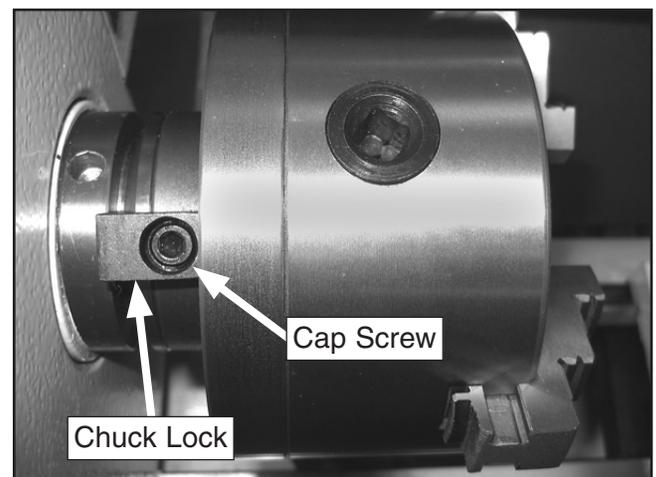

Figure 26. Chuck lock installed on spindle nose and chuck.
6. Install the chuck locks with the cap screws (see **Figure 26**).